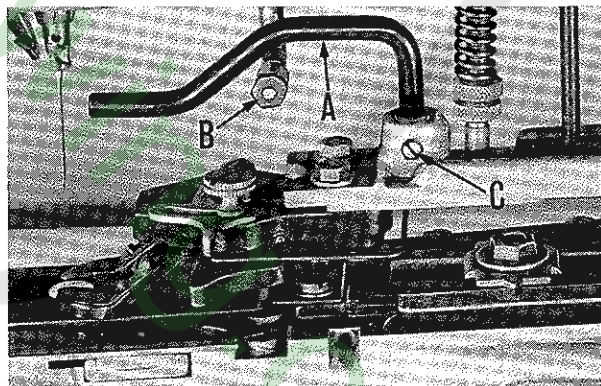

Fig. 10
Take machine out of stop position, and turn pulley in operating direction until button clamp is in its furthest position to the rear. At this point, there must be clearance between the button clamp lifting rod (A, Fig. 10) and the button clamp lifting roller (B). Adjustment is made by loosening screw (C) and moving rod (A) up. This will affect the height of the button clamp in relation to the feed plate as previously described, but for the normal setting of  $\frac{1}{2}$  inch, no interference between lifting rod and roller will occur.